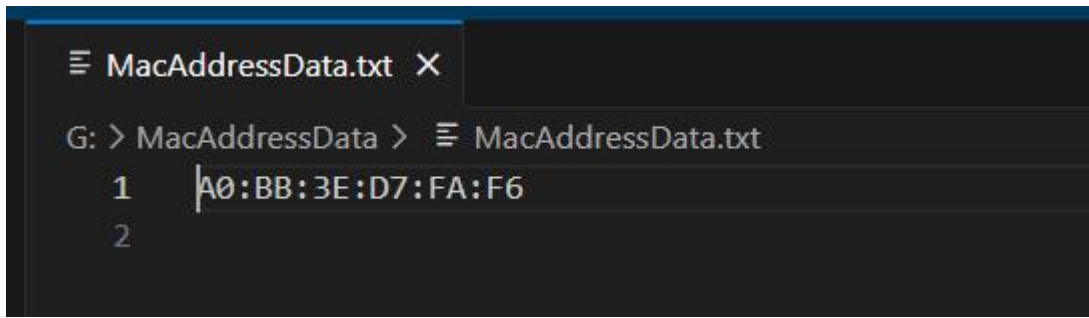

Figure 11. Format of File for Copying MAC Address
1. Save the MAC address in MacAddressData.txt, with one MAC address per line, as shown in Figure 11.